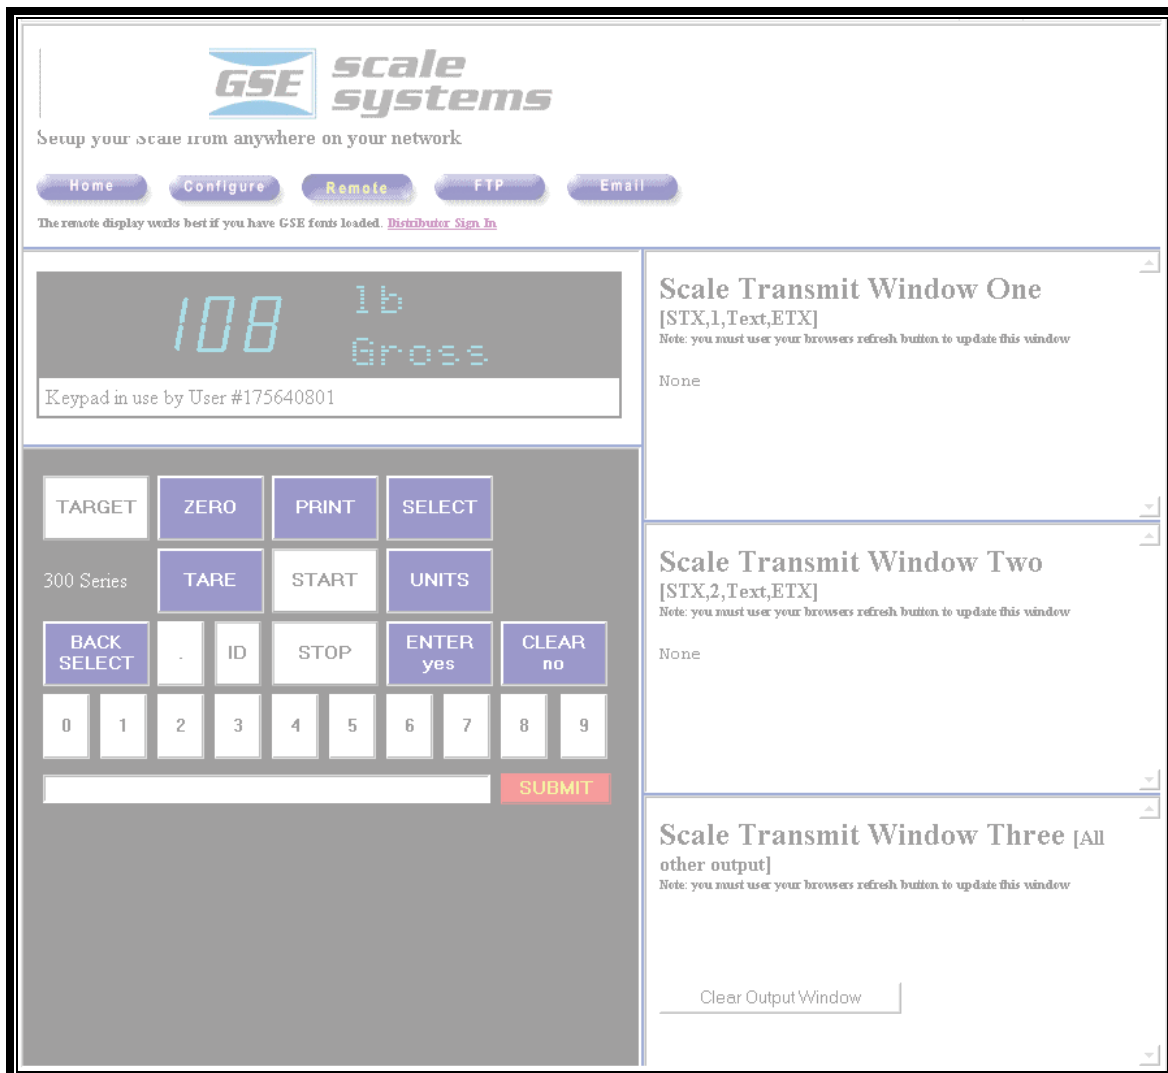

Figure 16: 300 Series GSE Web Server Remote Page (looking at Gross Weight)
*Figure 16* shows how the Remote Page looks on a 300 series product. Note that unless the Ethernet to Serial Port connection is functioning the keypad will default to 600 series.